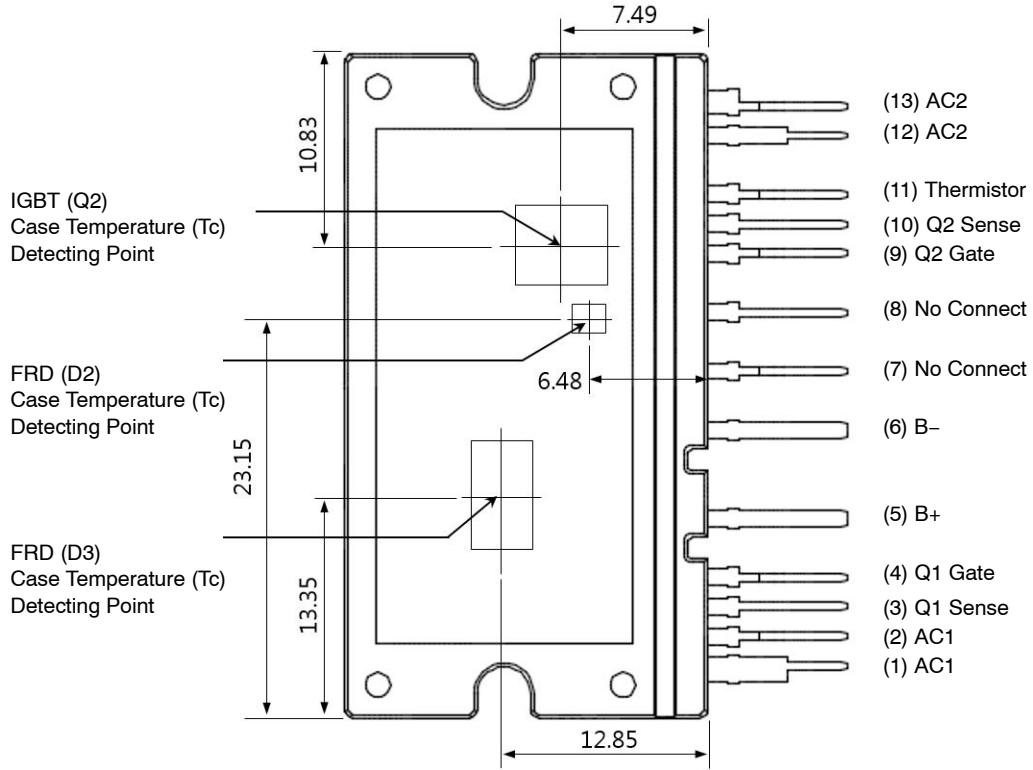
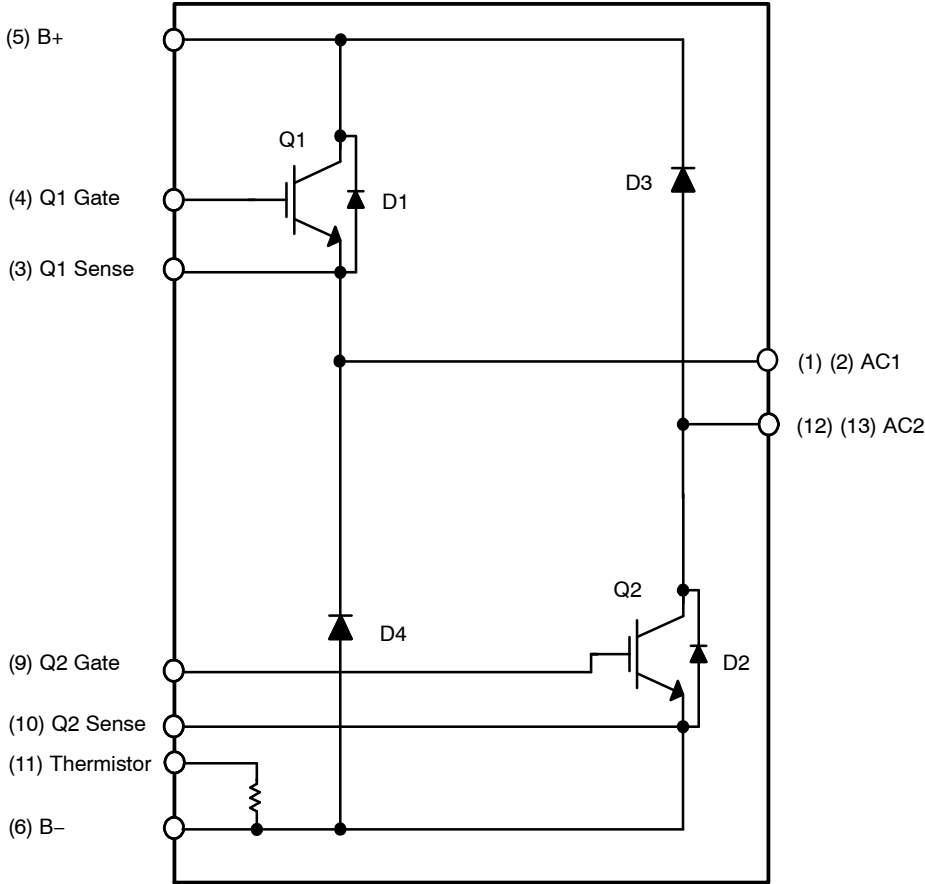

Figure 1. Top View
Figure 2. Internal Block Diagram
- 650 V – 75 A IGBT Full Bridge Inverter for DC / AC Power Conversion (Please Refer to Figure 2)
- For the measurement point of case temperature (T_C), please refer to Figure 1 and Figure 2 of chip location, and case temperature and heat sink temperature are defined on the each surface of base plate and heat sink just under the chips. DBC discoloration and Picker Circle Printing allowed, please refer to application note AN-9190 (Impact of DBC Oxidation on SPM Module Performance).